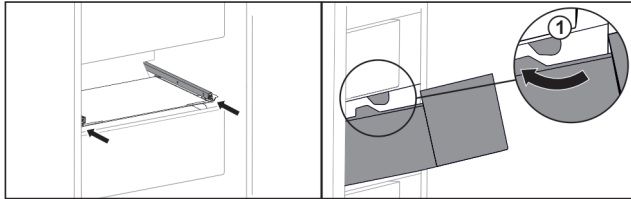

Fig. 108
- ▶ Guide drawer around the stoppers Fig. 108 (1).